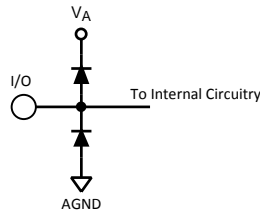

Figure 2.
- (1) The inputs are protected as shown below. Input voltage magnitudes above V_A or below GND will not damage this device, provided current is limited per Note 4 of the Absolute Maximum Ratings Table. However, errors in the A/D conversion can occur if the input goes above V_A or below GND by more than 100 mV. As an example, if V_A is +3.3V, the full-scale input voltage must be $\leq +3.4V$ to ensure accurate conversions. See Figure 2.
- (2) To ensure accuracy, it is required that $|V_A - V_D| \leq 100$ mV and separate bypass capacitors are used at each power supply pin.
- (3) With the test condition for $V_{REF} = +1.0V$ (2V_{P-P} differential input), the 12-bit LSB is 488 μV .
- (4) Typical figures are at $T_J = 25^\circ C$, and represent most likely parametric norms. Test limits are to AOQL (Average Outgoing Quality Level).
- (5) Integral Non Linearity is defined as the deviation of the analog value, expressed in LSBs, from the straight line that passes through positive and negative full-scale.
- (6) Optimum performance will be obtained by keeping the reference input in the 0.8V to 1.2V range. The LM4051CIM3-ADJ (SOT-23 package) is recommended for external reference applications.
- (7) This parameter is specified in units of dBFS - indicating the equivalent value that would be attained with a full-scale input signal
- (4) Timing specifications are tested at TTL logic levels, $V_{IL} = 0.4V$ for a falling edge and $V_{IH} = 2.4V$ for a rising edge.
- (5) Typical figures are at $T_J = 25^\circ C$, and represent most likely parametric norms. Test limits are to AOQL (Average Outgoing Quality Level).
- (6) This parameter is ensured by design and/or characterization and is not tested in production.